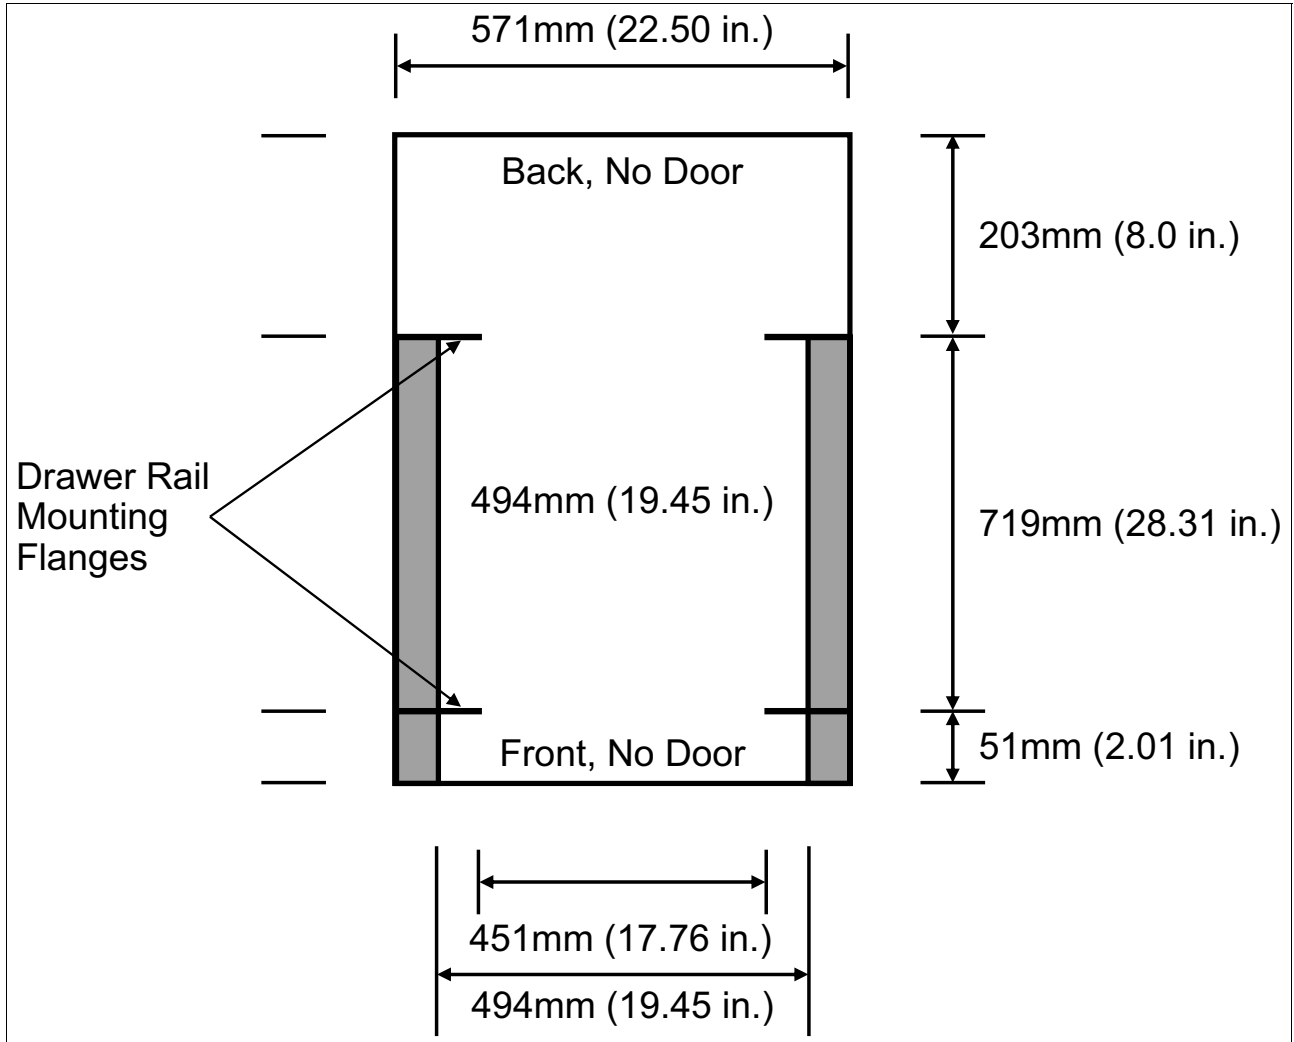

Figure A-3 Top view of rack specification dimensions (not specific to IBM)
- ▶ The front rack opening must be 451 mm wide ± 0.75 mm (17.75 in. ± 0.03 in.), and the rail-mounting holes must be 465 mm ± 0.8 mm (18.3 in. ± 0.03 in.) apart on-center (horizontal width between the vertical columns of holes on the two front-mounting flanges and on the two rear-mounting flanges). Figure A-3 is a top view that shows the specification dimensions.